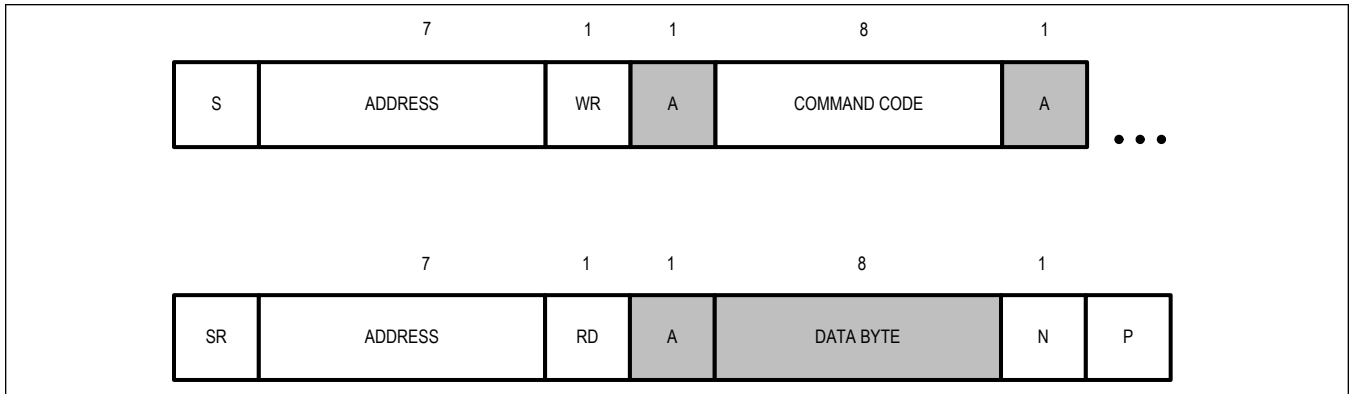

Figure 3. I2C Read
In an I2C read operation (Figure 3), the bus master issues a write command first by initiating a START (S) condition followed by seven address bits, a write bit (R/W = 0) and the 8-bit register address. The master then issues a repeated START (Sr) condition, followed by seven address bits, a read bit (R/W = 1). If the address byte is successfully received, the device (slave) issues an acknowledge (A). The master then reads from the slave. For continuous read, the master issues an acknowledge bit (AM) after each received byte. The master terminates the read operation by sending a not acknowledge (N) bit. The device then releases the data line.